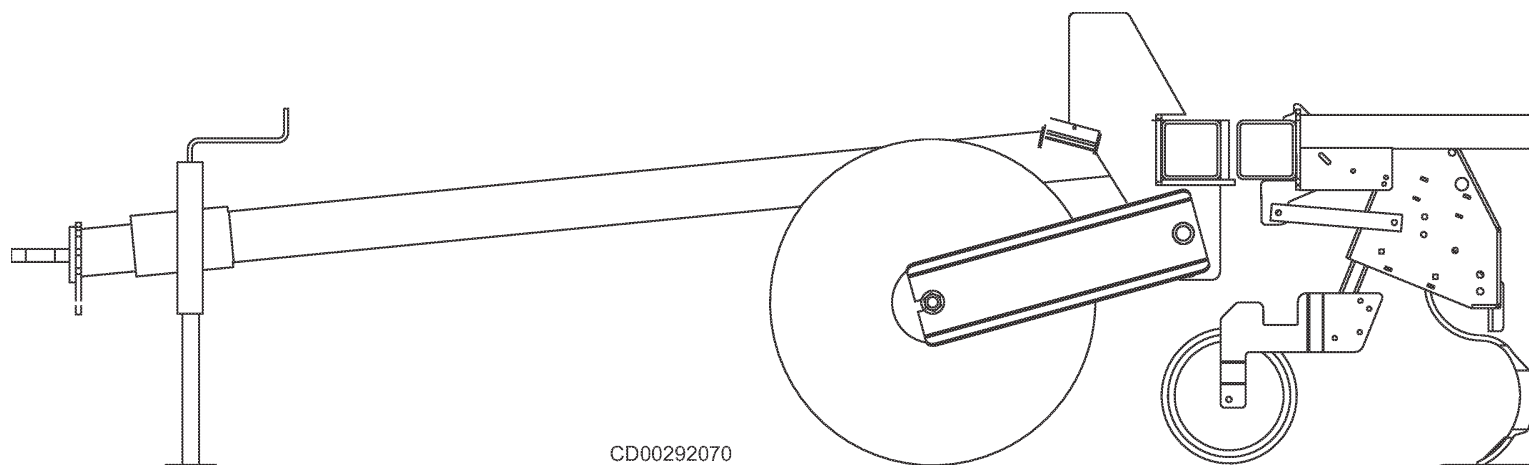

Figure 6 Rear parking stand lowered and pinned
3. Lower rear parking stands. Pin in position so the tool bar will be level with the hitch stored at drawbar height. See Figure 6.